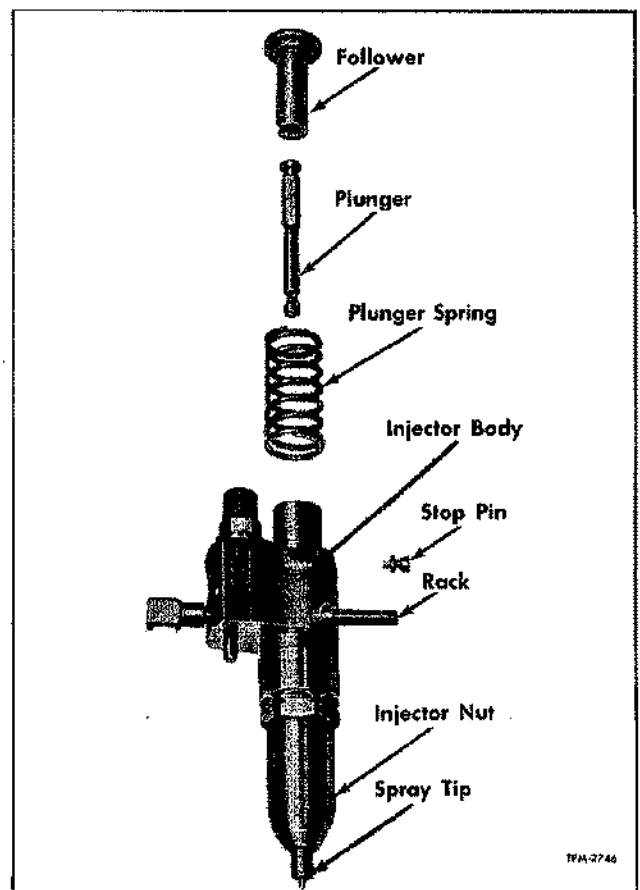
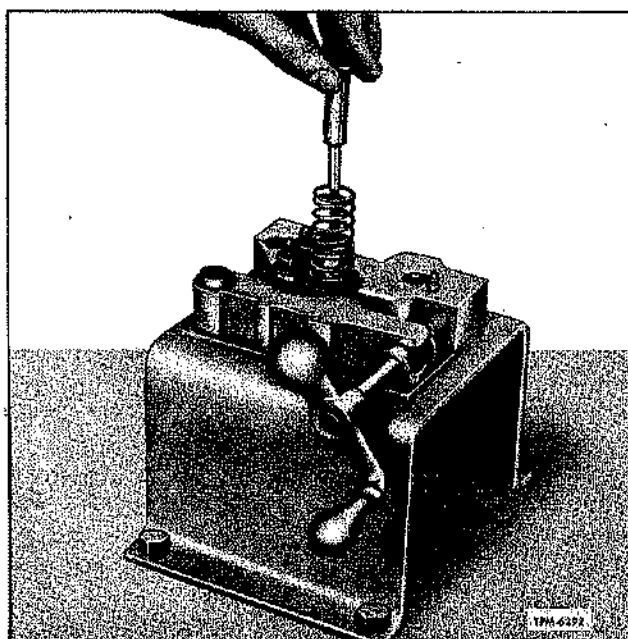

Figure 17—Injector Plunger and Follower Details
Figure 18—Removing or Installing Injector Follower Spring and Plunger
3. Refer to figure 17 for details and remove plunger follower, spring and plunger as an assembly (fig. 18).
1. Refer to figure 18, and slide the head of plunger into the follower. Insert this assembly through plunger spring for assembly to injector.